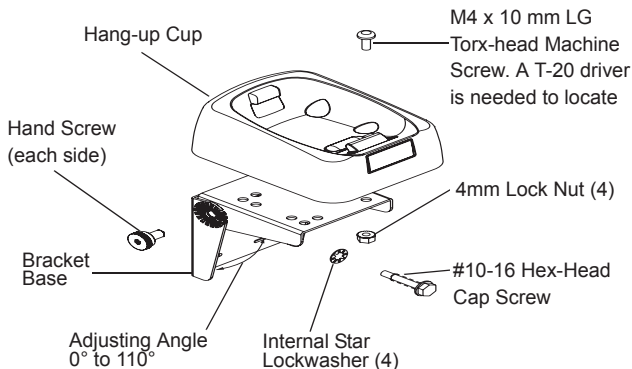

Figure 1. Adjustable Angle Bracket
Once an installation location has been decided, refer to Figure 1 and perform the following steps:
4. Place the hang-up cup on the bracket as shown in Figure 1. Secure the hang-up cup to the bracket using a T-20 Torx-head driver to the enclosed M4 x 10 mm screw and M4 nut.